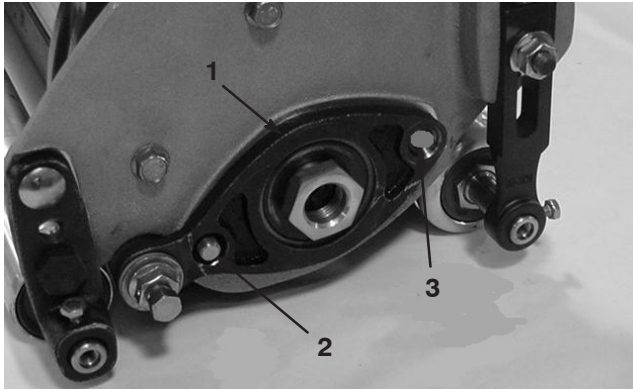
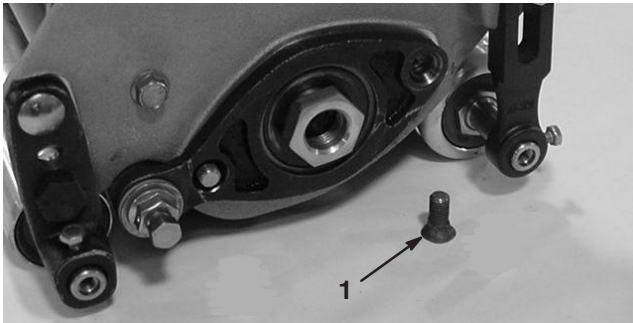

Figure 2
Figure 3
5. Remove the front bolt securing the bearing housing to the sideplate (Fig. 2). Replace with new shorter plow bolt (Fig. 3).
6. Remove the rear bolt securing the bearing housing to the sideplate (Fig. 2). Replace with new shorter plow bolt (Fig. 3).